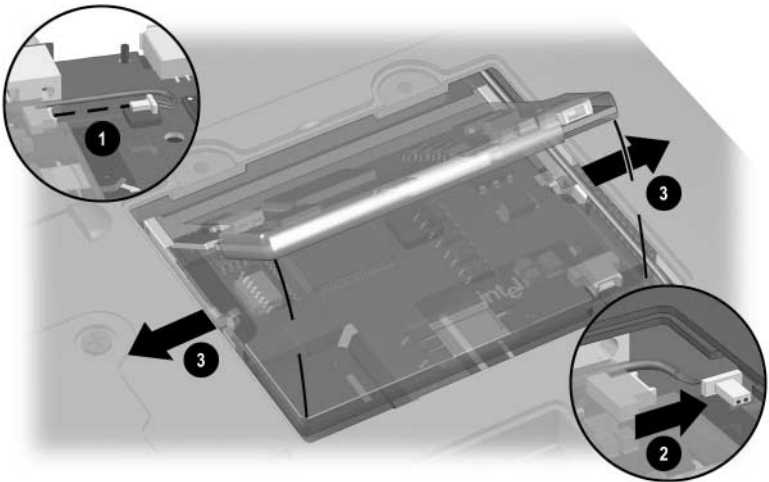

Figure 5-4. Removing the Modem/Network Interface Card
6. Disconnect the modem/NIC cable from the modem/NIC board ❶ (Figure 5-4).
7. Slide the modem/NIC cable into the mini PCI compartment until it clears the modem/NIC board ❷.
8. Spread the retaining tabs to release the modem/NIC ❸. The board tilts up to a 45-degree angle.